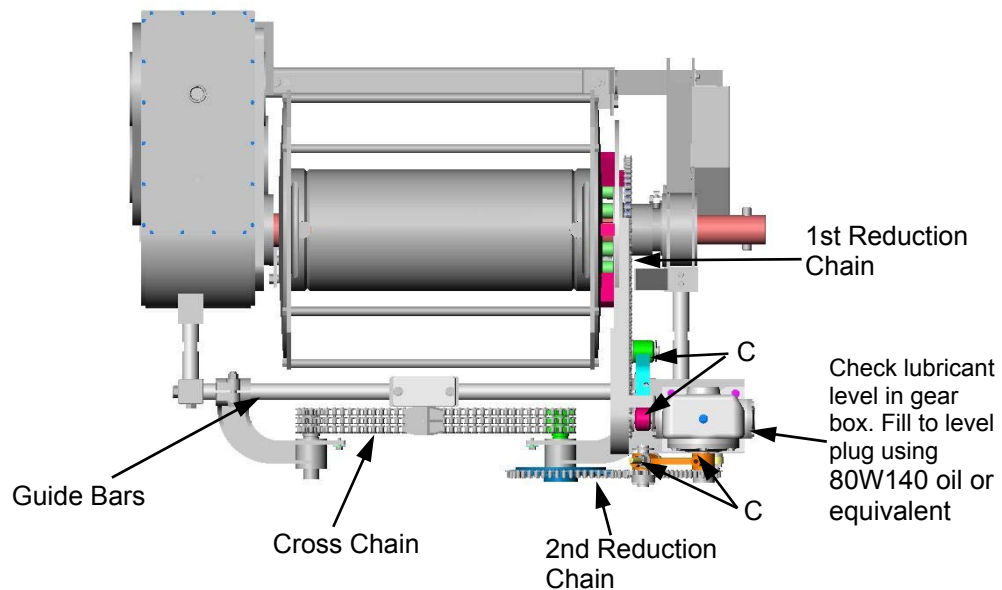

Figure 4.
Every 3 months or seventy five (75) hours of operation, the level wind assembly should be lubricated in accordance with the instructions shown on *figure 4*.